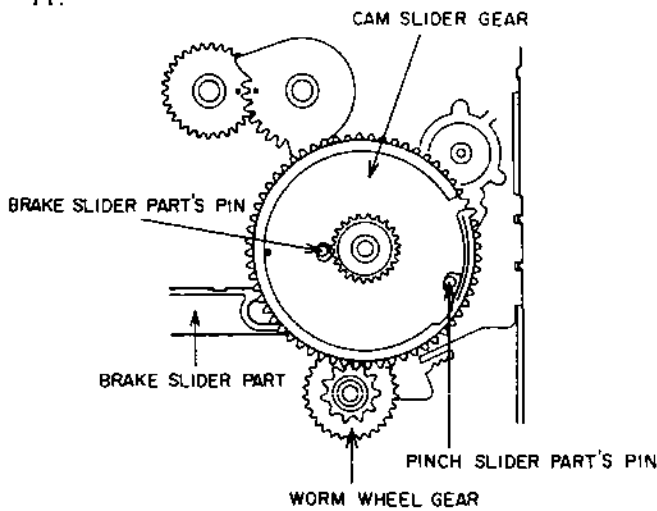

Fig 4-11
- 1) Attach the WORM WHEEL GEAR as shown in Fig.4-11.
- 2) Set the CAM SLIDER GEAR. At this time, adjust the position of the BRAKE SLIDER PART and PINCH SLIDER PART so that both pins appear through the holes on the CAM SLIDER GEAR as shown in Fig.4-11.